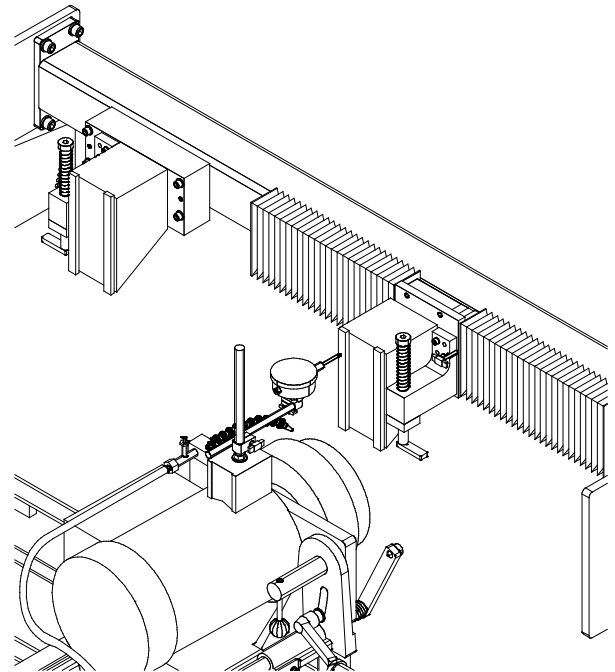

FIG. 50
2. Install the magnet base on the top of the motor with the arm extended so the dial indicator touches the electromagnet face. See FIG. 50.